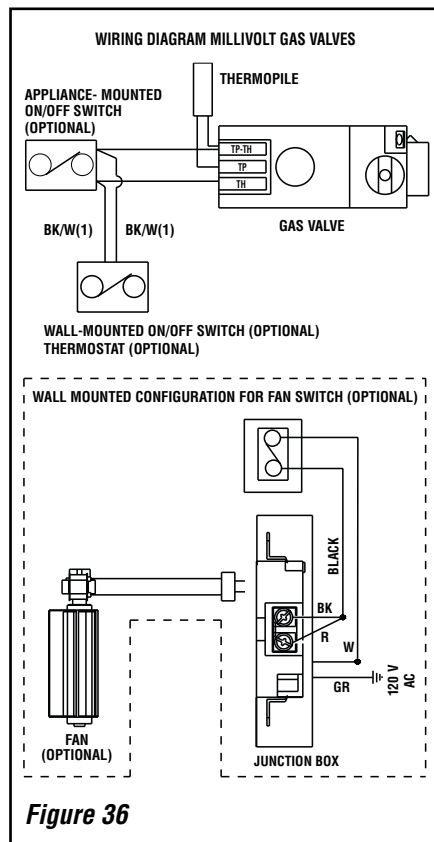

Figure 36
A. Millivolt Wiring (See **Figure 36**) –